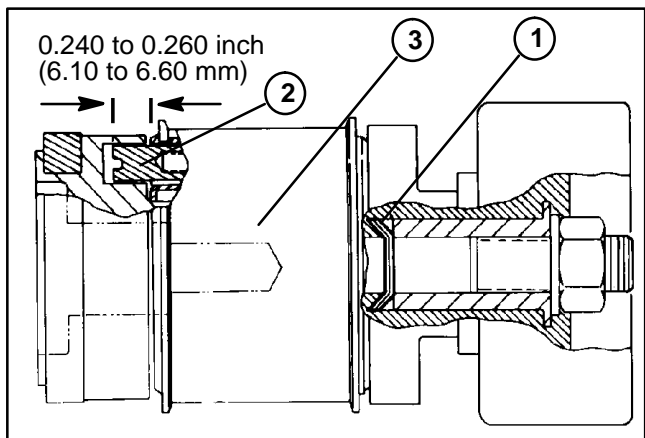

Figure 16
IMPORTANT: Make sure belleville washers are installed correctly (Fig. 16).
5. Apply Loctite 271 or equivalent to the threads of the special screw. Secure compression spring to the special screw with clutch pin. The clutch pin should extend out from 0.240 to 0.260 inch (6.10 to 6.60 mm) the face of the driver pulley when the pin is fully extended (Fig. 16).